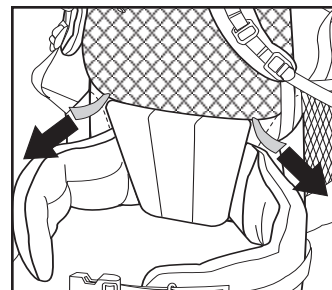
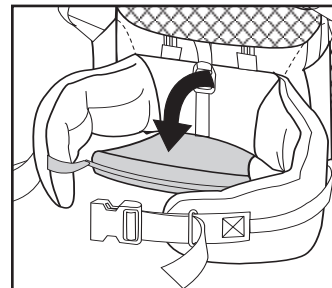

Figure 2D
Figure 2E
- I. Pull the red webbing loops down to undo the velcro (Figure 2D) and then undo the velcro that attaches the lumbar pad to the shoulder panel to flip down the lumbar pad (Figure 2E).